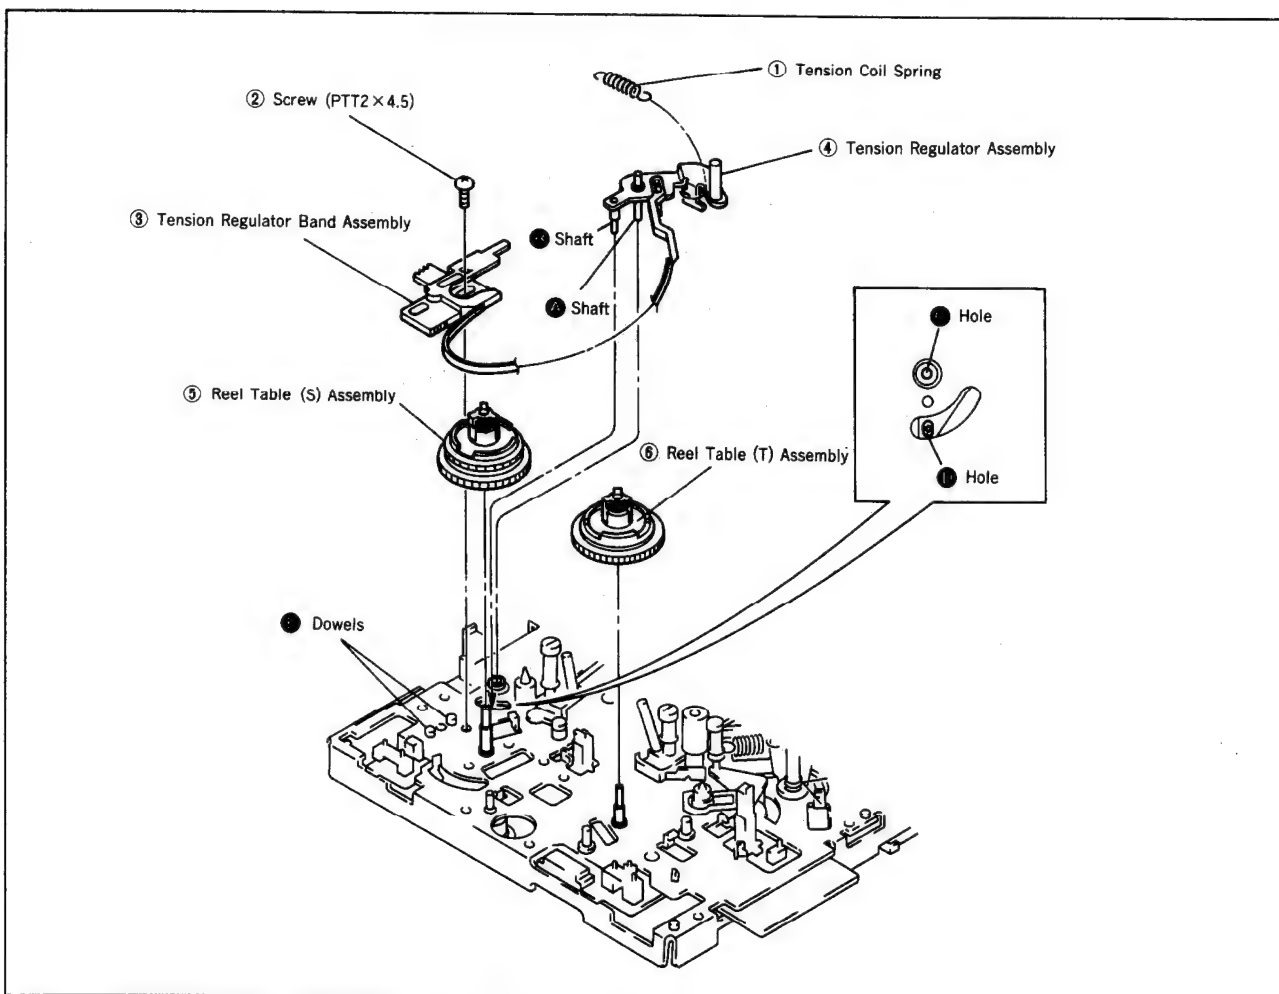

Fig. 12
4-6. TENSION REGULATOR ASSEMBLY, REEL TABLE (S) ASSEMBLY AND REEL TABLE (T) ASSEMBLY (Fig. 12)